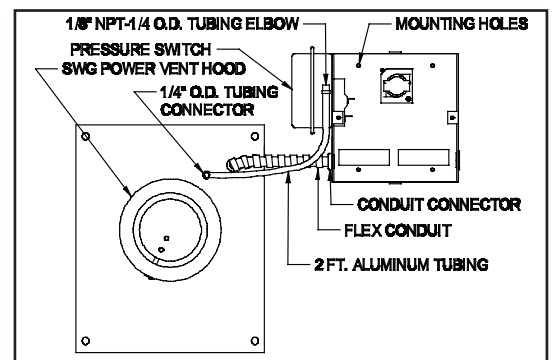

Figure 3
2. Fasten the flexible conduit from the SWG Venter into the conduit connector. Mount the CK-91F junction box or installer supplied junction box onto the wall or floor joist without straining the flexible conduit. Fasten the CK-91F junction box through the four dimpled locations on the base of the box. (See Figure 3)
1. Attach the 1/4" tubing connector to the pressure tube on the SWG Venter. (See Figure 3)